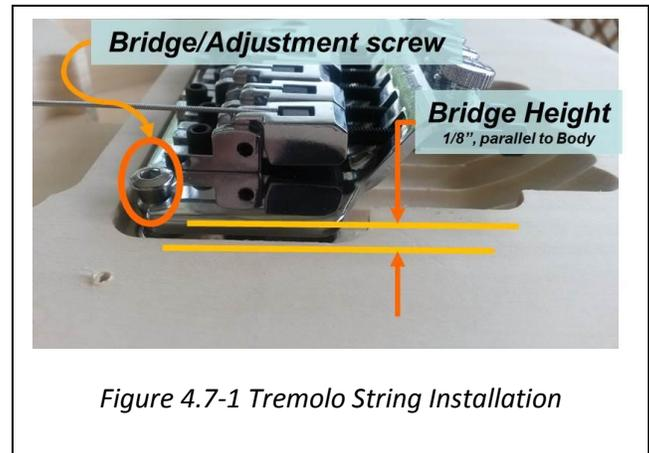

Figure 4.7-1 Tremolo String Installation
2. While holding the bridge assembly by the string locking bolts, use the 3mm Allen wrench to adjust the initial height of the bridge base so that it is approximately 1/8" above the Body. Ensure that the base notches are in the collared head of the adjustment screw (Fig. 4.7-1);
3. Carefully uncoil each of the strings (6), ensuring that the stings do not have a kink;